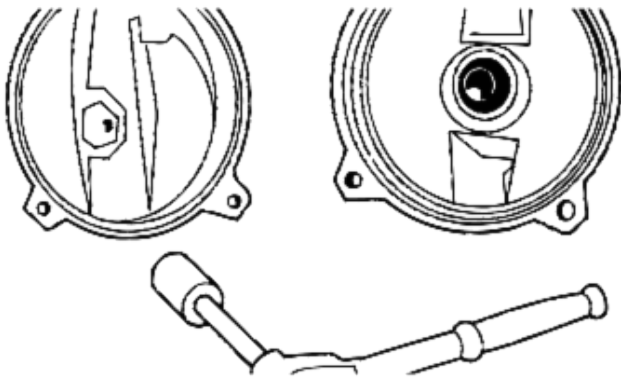

Figure 23: Remove Nozzle
8. Nozzle on 1/2 HP models can be removed from pump case with any standard 1-1/4" socket wrench with an extension (Figure 23).